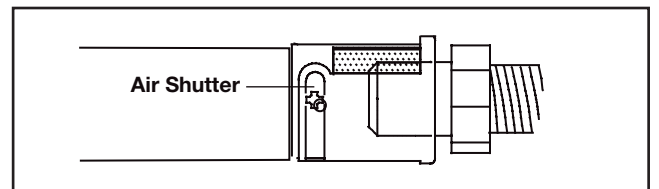

FIG. 2
6. Prior to reinstalling the burner, ensure to adjust the air shutter (**Fig. 2**). Refer to the venturi adjustment chart on the following page for details.